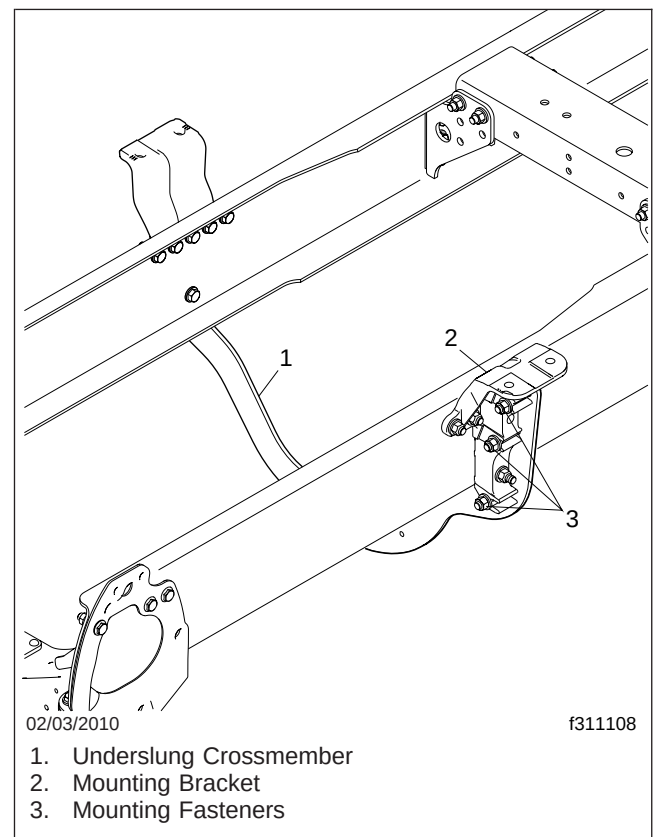

Fig. 2, Underslung Crossmember Removal
1. Remove the fasteners that attach the crossmember to the mounting bracket. See Fig. 2.